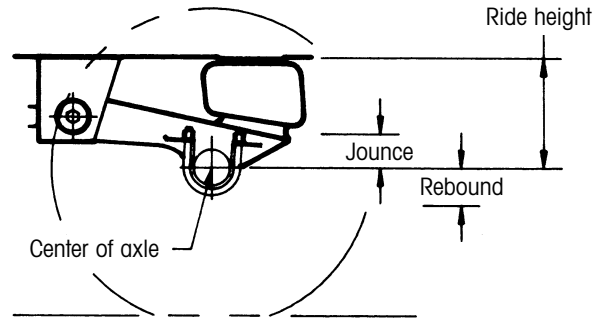

Figure 6. Suspension travel
**Jounce:** The maximum amount of upward axle travel, from ride height toward the frame, allowed by the suspension (Figure 6).
**Rebound:** Maximum amount of downward axle travel, from ride height toward the ground, allowed by the suspension (Figure 6).